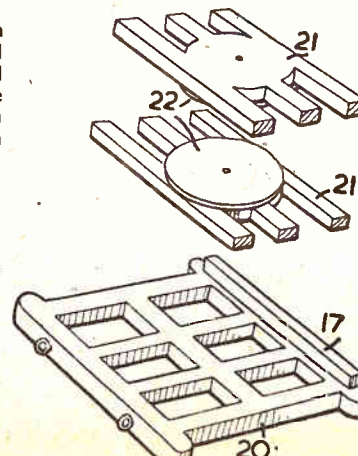

Fig. 4—Undercarriage assembly
The main part of the body is now complete, and can be placed aside for the glue to dry thoroughly while you proceed with the undercarriage. Begin with the pivoted turntable assembly. Cut piece 17, the two upper frames (21) and the main frame (20). Now cut the two card discs (22) and paste them to the upper frame pieces, as shown in Fig. 4. The first of the upper frame pieces is glued to the underside of the floor, and the second to the main frame. Piece No. 17 is also glued to the main frame, as shown in Fig. 4.
Now put two small screw eyes in the main frame of the undercarriage, as shown in Fig. 4, and cut a piece of wire of a suitable length to slip through the lengths of the shafts and the screw eyes on the main frame, to act as a retaining pin. Do not assemble the parts yet, however, or you will need to take them apart for painting.